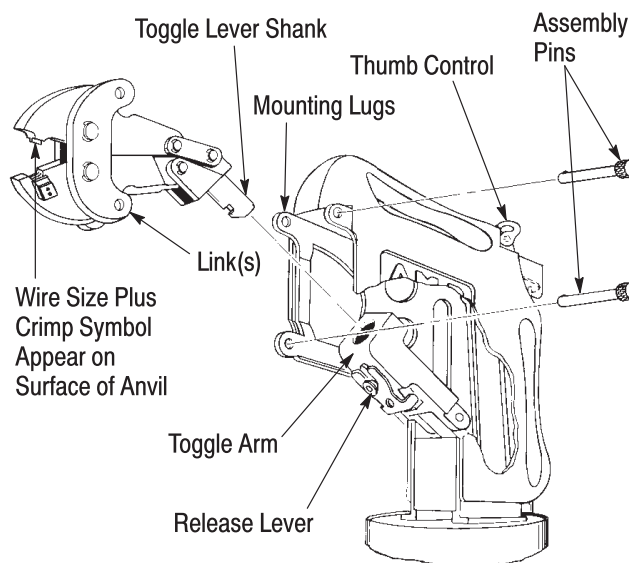

Figure 1
1. Select the correct crimping head for the wire size being used. Wire size and the insulation piercing crimp symbol (▲) appear on one jaw as shown in Figure 1.
2. Remove assembly pins from mounting lugs as shown in Figure 1.
3. Pull toggle arm forward and insert toggle lever shank of crimping head all the way into hole in toggle arm until toggle lever snaps in place. See Figure 1.